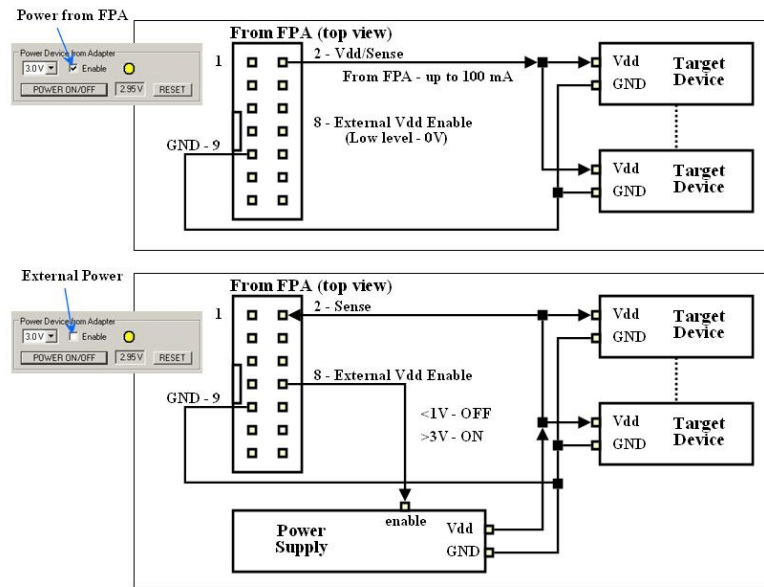

Figure 3-2.2
- Target devices can be supplied from programming adapter (programmable Vcc = 2.2V to 3.6V with step 0.2V, max total current 100 mA)(see Figure 3-2.2-top) or from external power supply. When target devices are supplied from external power supply then power supply ON/OFF can be controlled from programming adapter (see Figure 3-2.2-bottom).
should not be selected. External power supply ON/OFF can be controlled from programming adapter (from pin-8) (see Figure 3-2.2-bottom). Voltage level on the pin-8 is over 3 V (typical 4.6V) when external power supply should be enabled, and below 1 V (typical 0V) when the external power supply should be OFF. It is recommended to put pull-down resistor on the enable input of the external power supply.